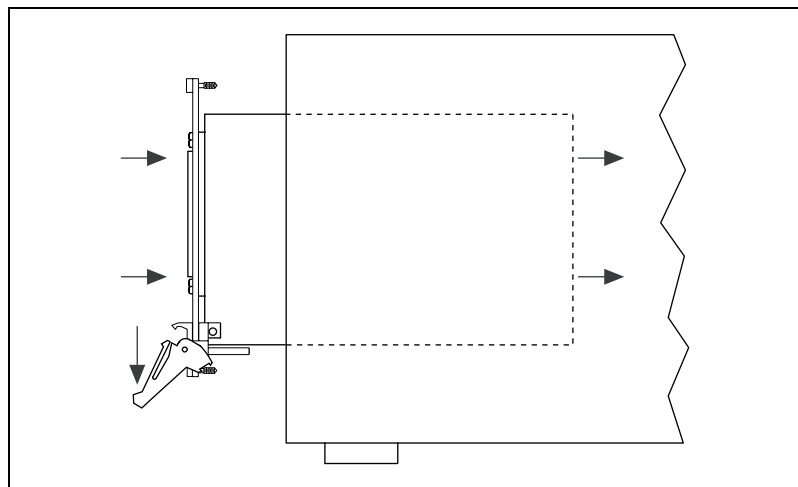

Figure 2-2. Injector/Ejector Handle Position during Controller or Peripheral Module Insertion
- b. Slide the controller to the rear of the chassis, making sure that the injector/ejector handle is pushed down as shown in Figure 2-2.
- b. Slide the module to the rear of the chassis, making sure that the injector/ejector handle is pushed down as shown in Figure 2-2.